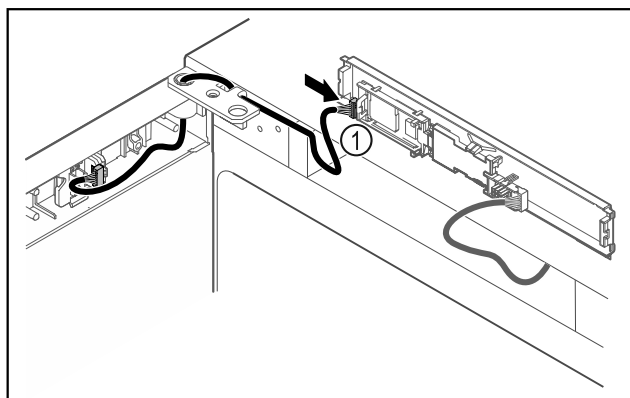

Fig. 47
- Connect the plug Fig. 47 (1) to the circuit board.